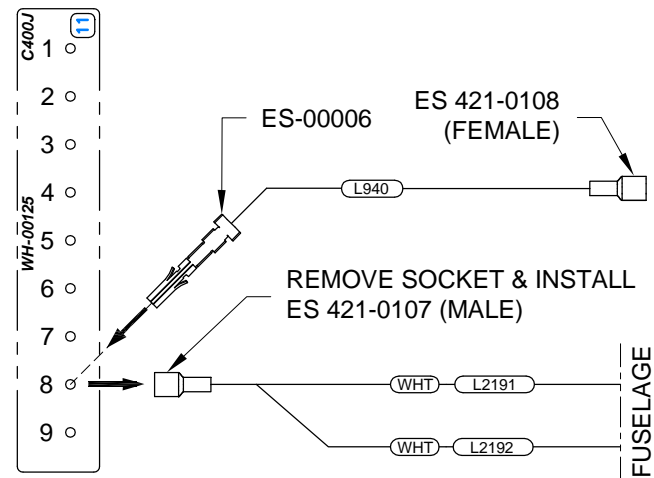

FIGURE 1: RV-14 COMMON FUSELAGE HARNESS MODIFICATION
Step 4: Insert the Molex socket from the L940 wire into C400J as shown in Figure 1.